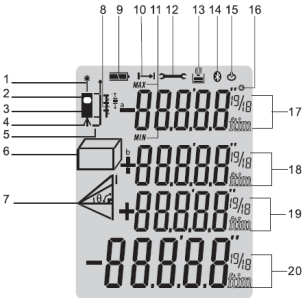
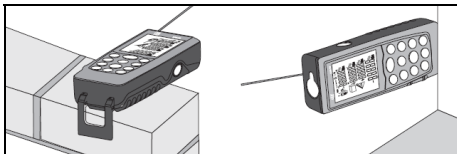
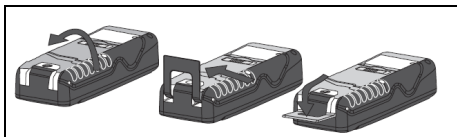

Fig. 2: Description of the symbols at display
Fig. 3: Distance measurement on sides and angles
Fig. 4: Stand opening for measurements on angles
- **Tripod** → (see Fig. 2 – Pos. 4) Press and hold the  key for 2s. Measurement is carried out from the hole where the tripod is inserted
- **Instrument + stand level** → The instrument is provided with a stand which can be opened to comfortably rest the unit on horizontal surfaces Fig. 3). With the stand at 90°, delicately move it to the right and open it completely (see Fig. 4). In this position, by resting the instrument on an angle or step, it is automatically configured with the level shown in Fig. 2 – Pos. 5). Move it delicately to the right and turn the stand to close it on the instrument